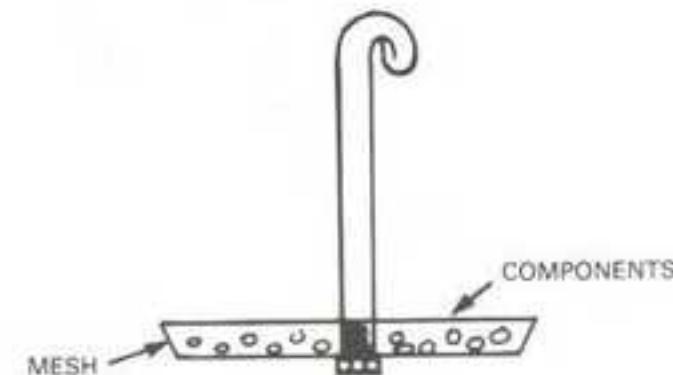

Fig. 12 Stainless steel basket for small components.
- (1) Insulated holders for anode and cathode bars, usually made of porcelain or plastic. If the tank is made of steel, these holders then keep the anode and cathode bars insulated. These are bolted or screwed onto the flanges. For plastic, the tank material provides insulation.
- (2) The anode and cathode bars, usually made of copper or brass, typical diameters being  $\frac{1}{4}$ in,  $\frac{1}{2}$ in. to 1in. and  $1\frac{1}{2}$ in., depending on the size of the tank and the weight of the anode they will have to support.
- (3) Anode. These can be sheet, drilled and hooked, or hooked anodes. Make sure the hooks are out of the electrolyte.
- (4) The rim, or the flange around the top of the tank, is useful for handling and affixing the holders for the anode and cathode bars, and
- (5) This is the cathode, or component to be electroplated. It can either be wired on with copper wire or aluminium wire for plating or anodising. The component can be jigged or hooked. A useful method for small components is to pre-clean and spread them out on a piece of stainless steel mesh shaped like a basket, with a wire or hook through the middle (Fig. 12). After spreading them over the surface of the mesh, the basket is immersed in the electrolyte suspended by the hook from the cathode bar. Shake the basket at various times to move the components. This will prevent areas being unplated.
- (1) Insulated holders for the various heaters and agitation equipment.
- (2) This is the cathode, or component to be electroplated. It can either be wired on with copper wire or aluminium wire for plating or anodising. The component can be jigged or hooked. A useful method for small components is to pre-clean and spread them out on a piece of stainless steel mesh shaped like a basket, with a wire or hook through the middle (Fig. 12). After spreading them over the surface of the mesh, the basket is immersed in the electrolyte suspended by the hook from the cathode bar. Shake the basket at various times to move the components. This will prevent areas being unplated.